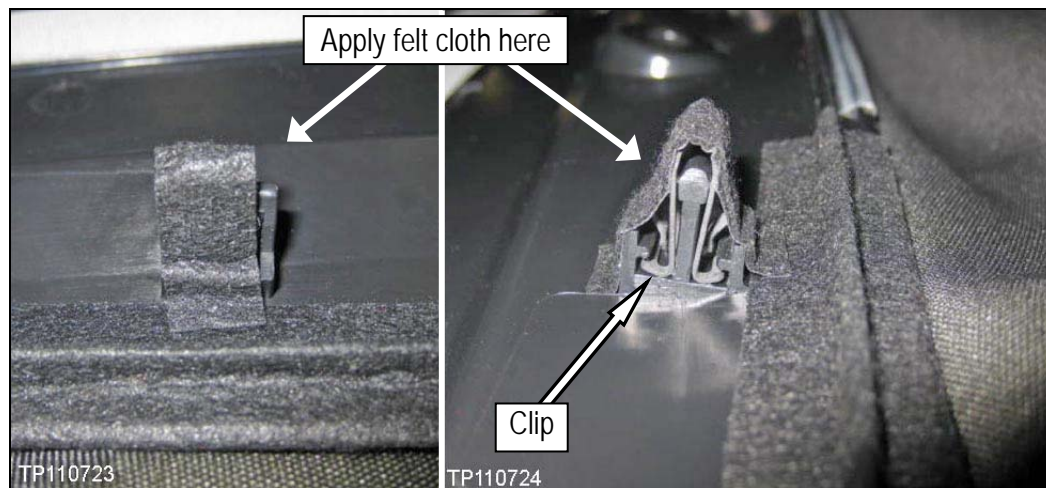

Figure 24f
26. Cut four 10 mm x 50 mm pieces from the 1 mm sheet, and then apply one to each clip as shown in Figure 24f, and where pointed out in Figure 23f.